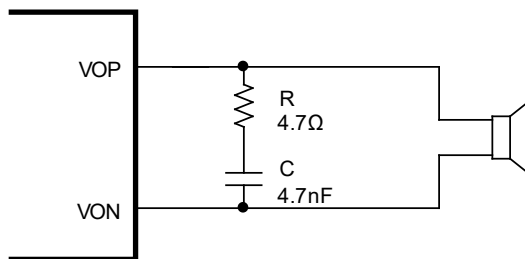

Figure 5. RC Snubber Circuit
4. For applications where the power supply is rated more than 4.5V, it is strongly recommended to add a simple snubber circuit (as shown in Figure 5) between the two output pins, VOP and VON, to prevent the device from accelerated deterioration or abrupt destruction due to excessive inductive flybacks that are induced on fast output switching or by an over-current or short-circuit condition.
For applications where the power supply is rated more than 4.5V, it may become necessary to add an RC snubber circuit between the two output pins, VOP and VON, for robustness and reliability. Figure 5 shows a simple RC snubber circuit, which can be used to prevent the device from accelerated deterioration or abrupt destruction due to excessive inductive flybacks that are induced on fast output switching or by an over-current or short-circuit condition.